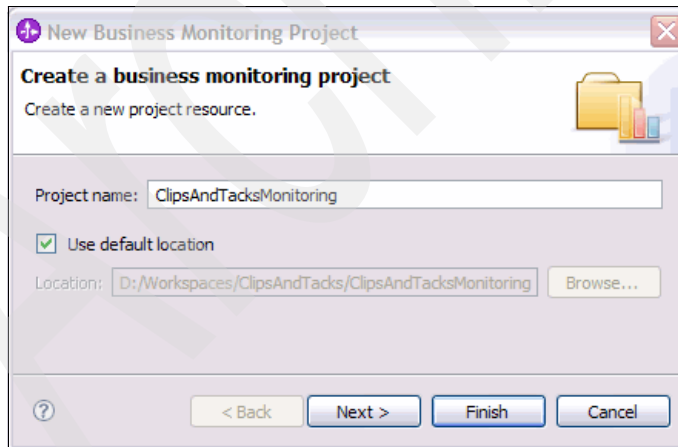

Figure 5-19 Creating a monitoring project
3. In the New Business Monitoring Project window (Figure 5-19), click **Finish**.